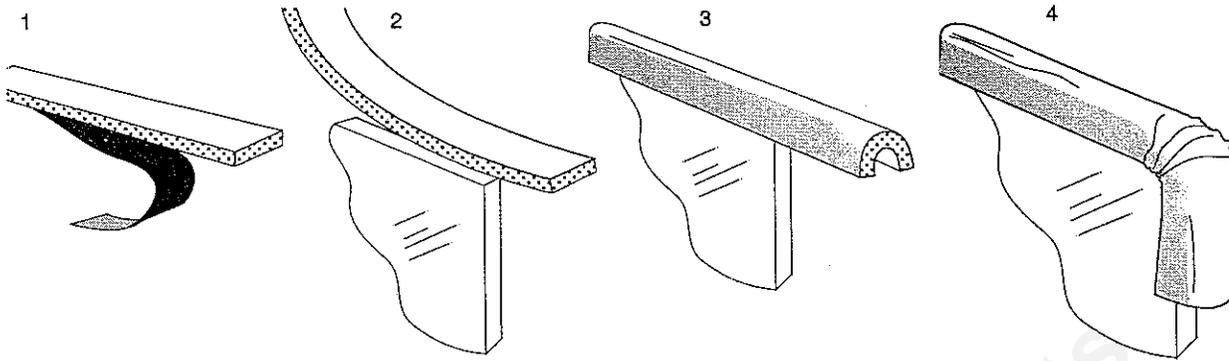

FIGURE 43. Install the gasket around the new glass.
**8.** Use a new self-adhesive gasket for the glass panel. Remove the backing and wrap the gasket around the edge of the glass in a 'C' configuration. Figure 43. Put the glass into the back of the screen/frame assembly.